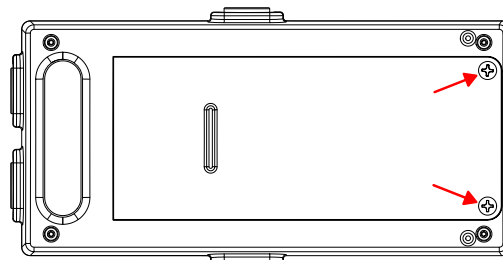

Figure 2: Position of battery door screws.
1. Use a Phillips screwdriver to remove the screws from the battery door (see Figure 2), then remove the door.